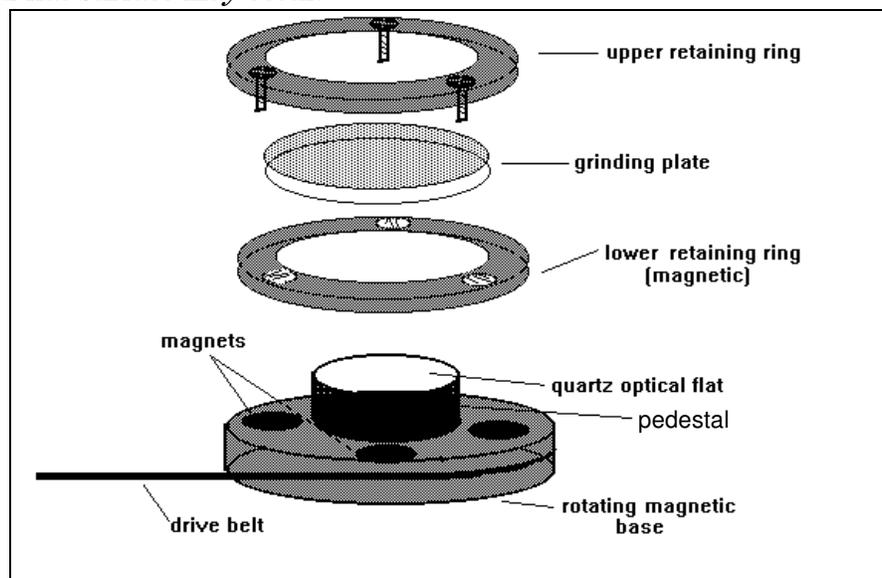

Figure 2-2. Pedestal/grinding plate assembly.
6. Assemble grinding plate system as described below. See Figure 2-2.
7. **Assemble optical attachment if supplied. — See Figure 2-2.**
- e. Screw the chrome post onto the flat face of the horizontal bar with the Allen head screw provided. Remove the cap screw from the top of the chrome post. *Note: The chrome post/ horizontal bar may have been shipped as one assembly. If so, then just install the horizontal bar as in (4) with the chrome post oriented to the left of the mounting block.*